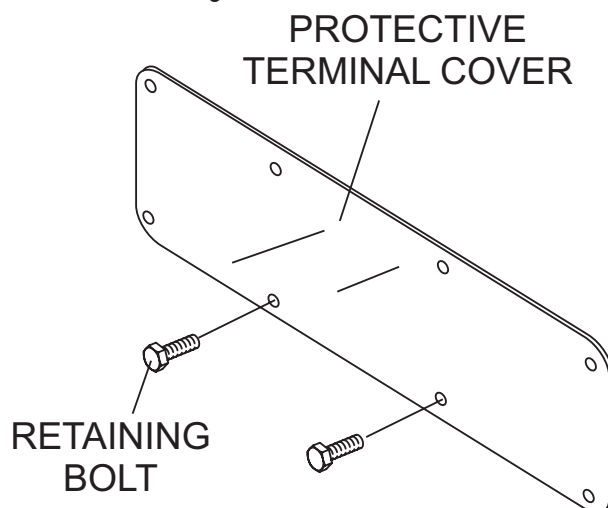

Figure 9. Protective Terminal Cover (UVWO Terminal Lugs)
The **output terminal lugs** are located behind a protective cover (Figure 9). Unscrew the securing bolts (8) and remove the cover to gain access to the output terminal lugs.